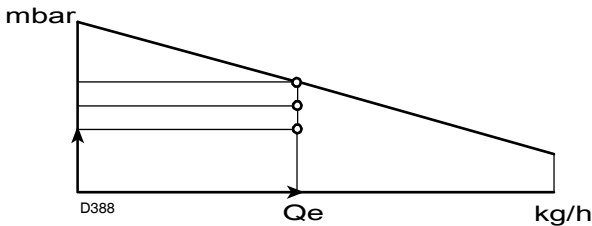

Fig. 4
- 3 In the firing rate range of the burner, (Fig. 4), indicate the work point defined by:
- 4 Trace a vertical line from point A, (Fig. 4), and find the maximum pressure H2 of the firing rate.
If H3 is greater than H1, as in (Fig. 4), the burner can produce the delivery requested.